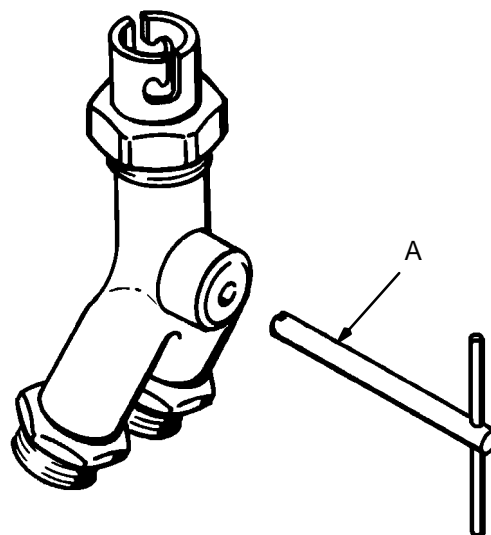

Fig 1
To adjust the fluid flow, insert the adjustment tool (A) as shown in Fig 1. Turn the tool clockwise to decrease flow and counterclockwise to increase flow.